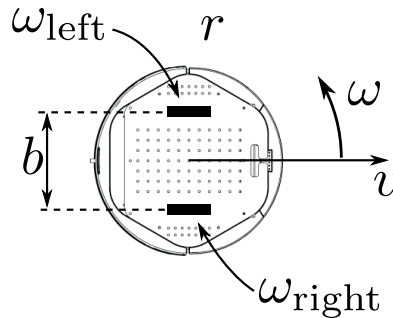

Figure 3: Differential drive model
- Q3** In practice it is often impossible to control a ground robot by sending (x, y, θ) velocities. A classical way to control such a robot is to send a setpoint with a linear velocity v and an angular velocity ω , expressed in the robot frame as shown in Fig. 3.
- Q5** When a robot is equipped with two actuated wheels, a simple model is the differential drive model, as shown in Fig. 3. Assuming the two wheels have a radius r and are separated with a distance b , then the kinematic model yields: